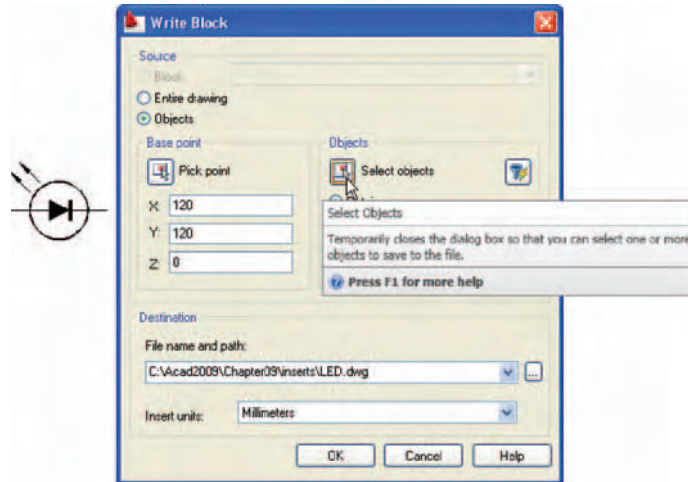

Fig. 9.20 Example – Wblock
Example – wblock (Fig. 9.20)
1. Construct a light emitting diode (**LED**) symbol and *enter w* at the command line. The **Write Block** dialog appears (Fig. 9.20).